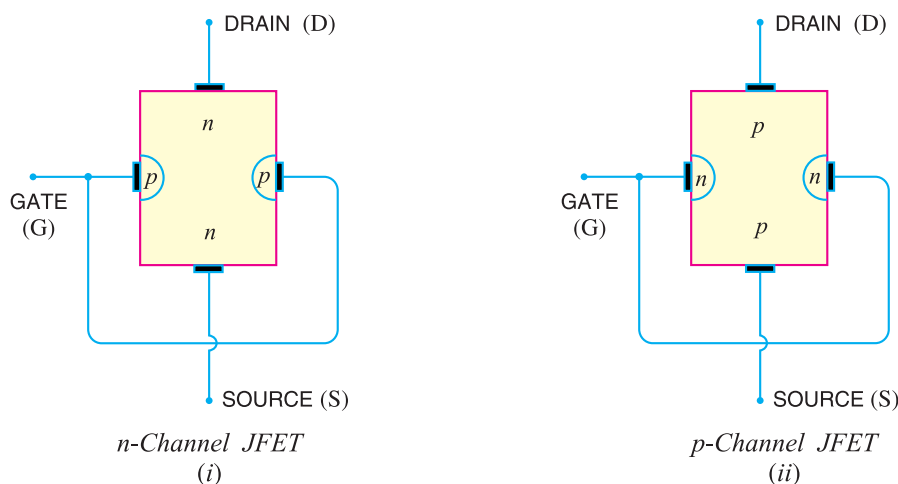

Fig. 19.1
Constructional details. A *JFET* consists of a *p*-type or *n*-type silicon bar containing two *pn* junctions at the sides as shown in Fig.19.1. The bar forms the conducting channel for the charge carriers. If the bar is of *n*-type, it is called *n-channel JFET* as shown in Fig. 19.1 (i) and if the bar is of *p*-type, it is called a *p-channel JFET* as shown in Fig. 19.1 (ii). The two *pn* junctions forming diodes are connected *internally and a common terminal called *gate* is taken out. Other terminals are *source* and *drain* taken out from the bar as shown. Thus a *JFET* has essentially three terminals *viz.*, *gate* (*G*), *source* (*S*) and *drain* (*D*).
* It would seem from Fig. 19.1 that there are three doped material regions. However, this is not the case. The gate material *surrounds* the channel in the same manner as a belt surrounding your waist.